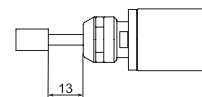

Fig. 15
- Do not exceed 13mm of overhang for mounted grindstones as shown in Fig. 15. If the overhang must exceed 13mm, reduce the motor speed in accordance with table 3.